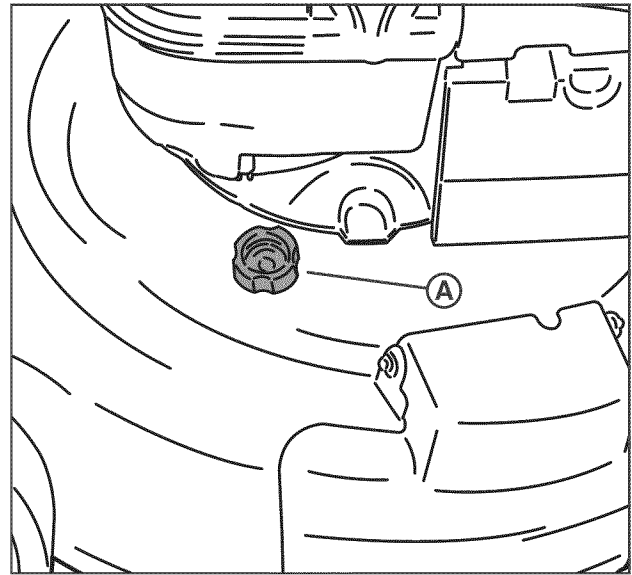

Figure 20: Washout port
5. Connect the male end of a standard garden hose to the washout port connector (A, Figure 20, next page).